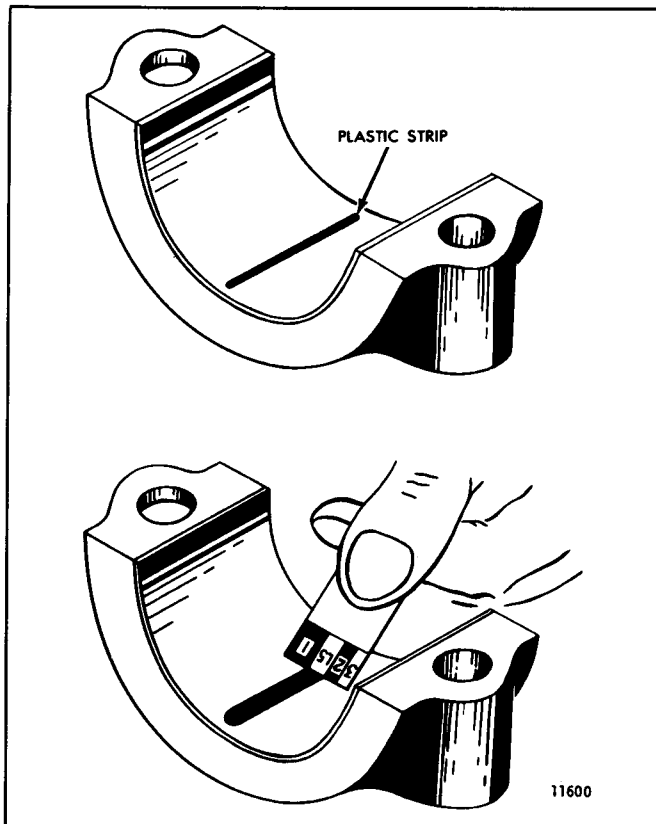

Fig. 1 - Using Plastic Strip to Measure Bearing-to-Crankshaft Clearance
2. Place a piece of the plastic strip the full width of the bearing shell, about 1/4" off center (Fig. 1).
5. Compare the width of the flattened plastic strip at its widest point with the graduations on the envelope (Fig. 1). The number within the graduation on the envelope indicates the bearing clearance in thousandths of an inch. Taper may be indicated when one end of the flattened plastic strip is wider than the other. Measure each end of the plastic; the difference between the readings is the approximate amount of taper.